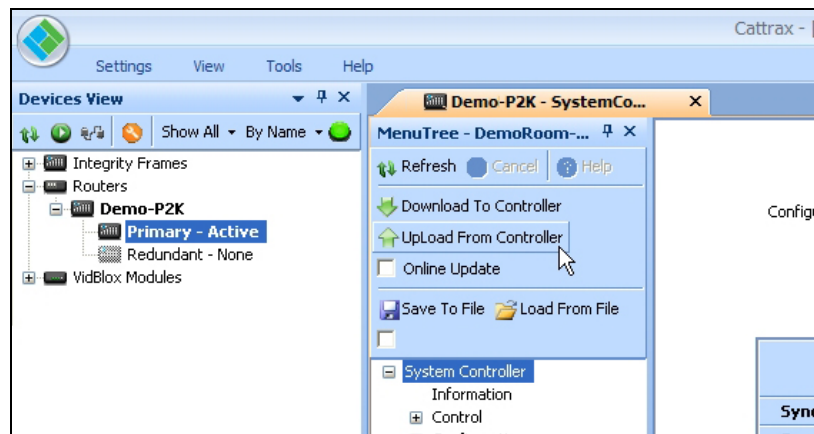

Figure 3. Upload from Controller Command
3. Click the “*Upload From Controller*” button, as shown by Figure 3. This action will cause Cattrax to non-destructively load and display the system configuration file currently loaded in system controller memory.